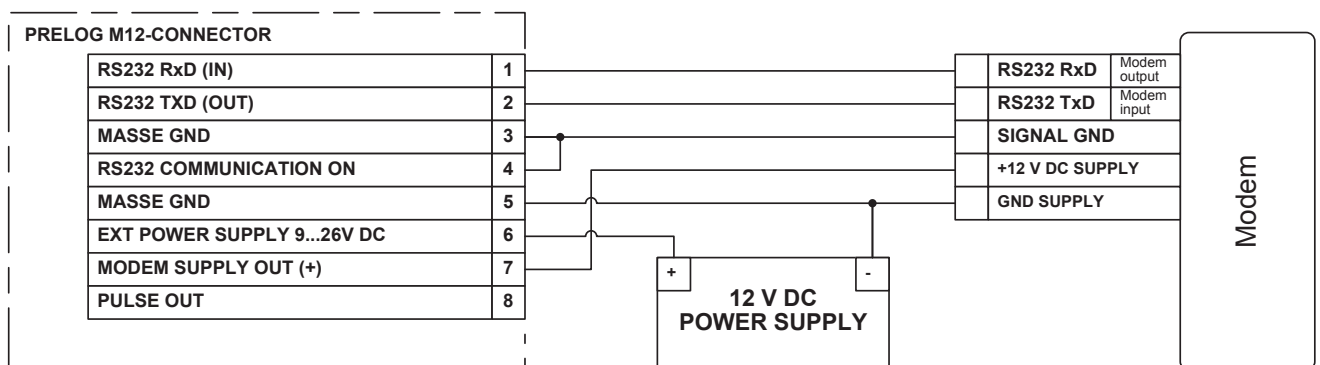

Fig. 10
If the PreLOG should always be accessible the control pin “RS232 Communication ON” (4) has to be connected to the “Masse GND” pin. This operating mode needs the most energy since both, the RS232 interface and the modem, are permanently activated (see Fig. 10).